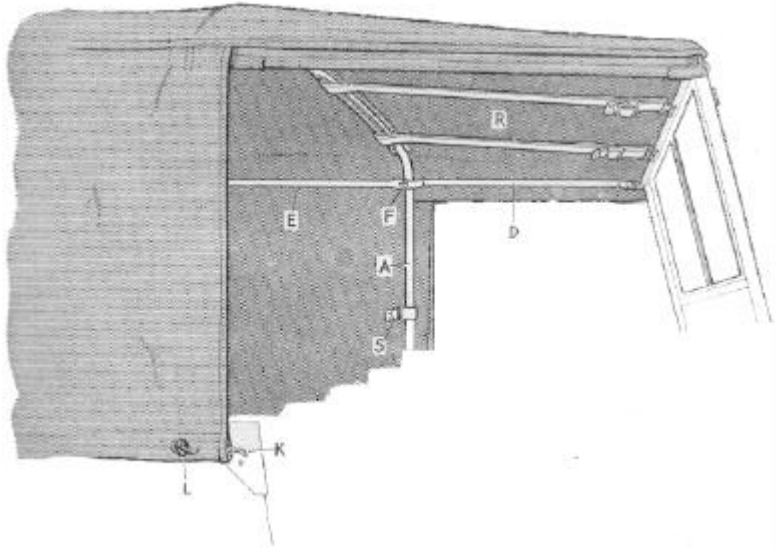

Fig. 40. Front hood straps.
Place the hood over the hood-sticks and engage the front hood eyes (G) with the retainers on the outside of the top windscreen rail. Loop the hood straps under the front hood-stick, engage the hooks with the windscreen sockets (H) on the inside front of the windscreen (Fig. 40) and tighten.
Push the side rope hooks (K) into their holes (Fig. 40), loop the side ropes (L) under the body side retainers (M), pull taut and attach to the rear rope hooks (N).